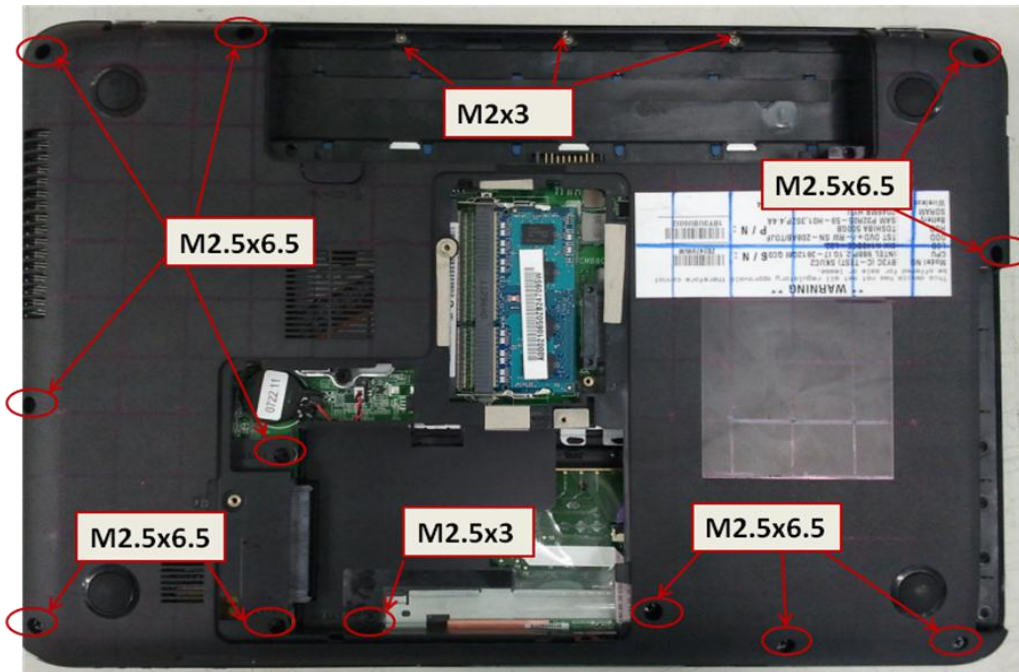

Figure 4-9-1 Remove screws of base
Top assembly will be removed during the disassembly of the display, so please see the procedure of it. (See figure 4-9-1 to 4-9-4)
2. Remove the following screws securing base and top. (see figure 4-9-1)
3. Install the base assembly by securing the screws(see figure 4-9-1)